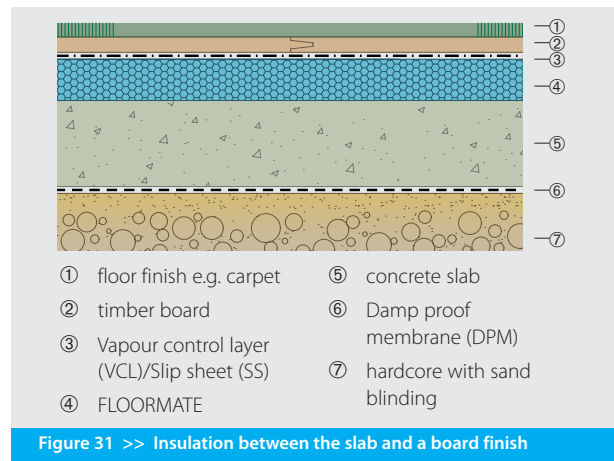

Figure 31 >> Insulation between the slab and a board finish
- »» between the slab and a board finish (figure 31).